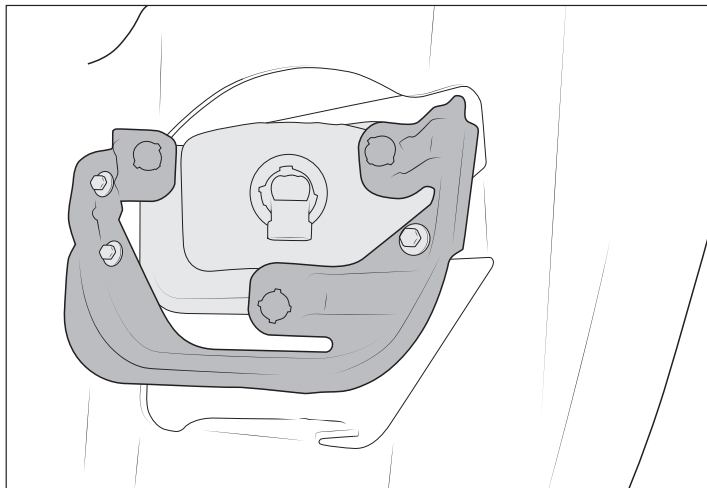

Figure 38
2. Install factory fog lights into bumper corners with factory hardware (fig 38). Torque to **9 lb-ft**.